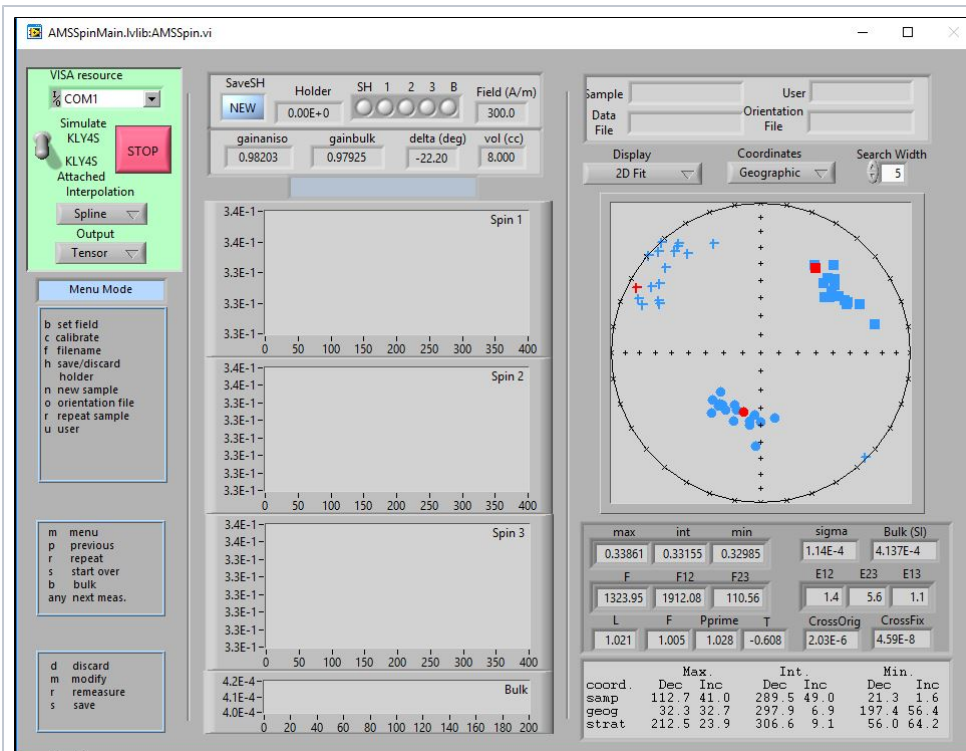

Figure 2. AMSSpin startup window.
7. There are three menus on the left hand side of the screen. When the program first opens, menu mode is selected (**Figure 2**).